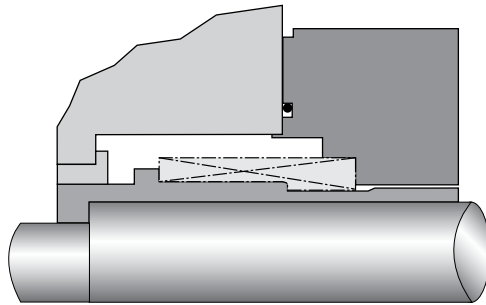

Figure 9
6.4 Installation of Seals with Hooked Sleeves (overhung pumps). See Figure 9.